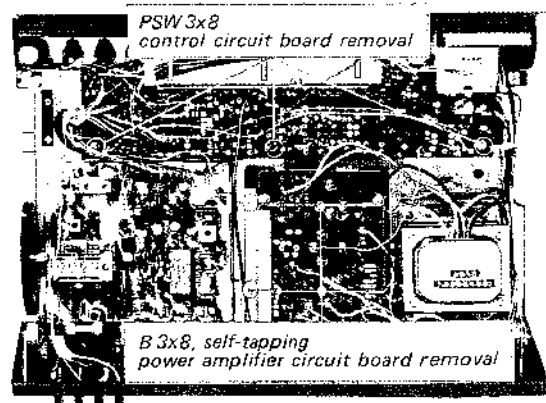

Fig. 2-13. Control and power amplifier circuit board removal
5. Remove the three screws securing control circuit board to the chassis as shown in Fig. 2-13.
2. Remove the four self-tapping screws shown in Fig. 2-13.